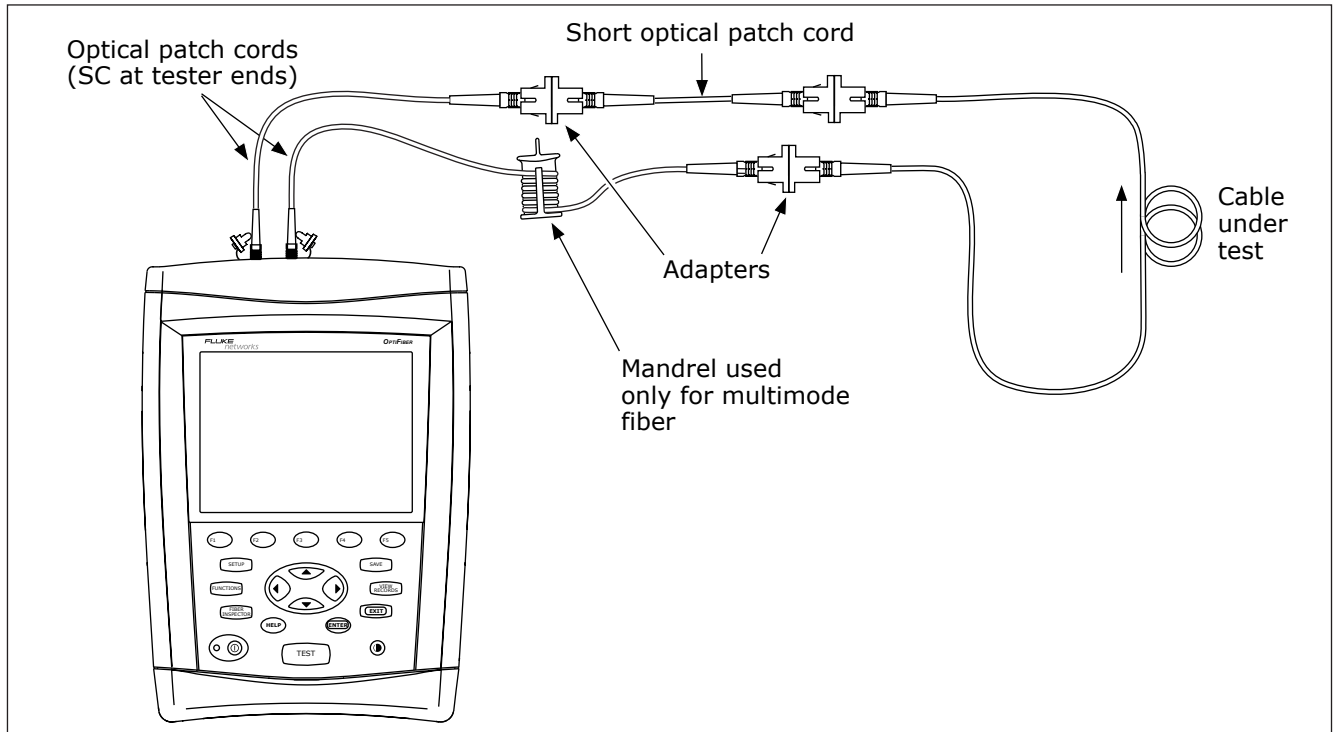

Figure 26. Loopback Mode Test Connections
**10** Clean the connectors on the cabling to be tested; then connect the reference patch cords and the short patch cord to the cabling, as shown in Figure 26.